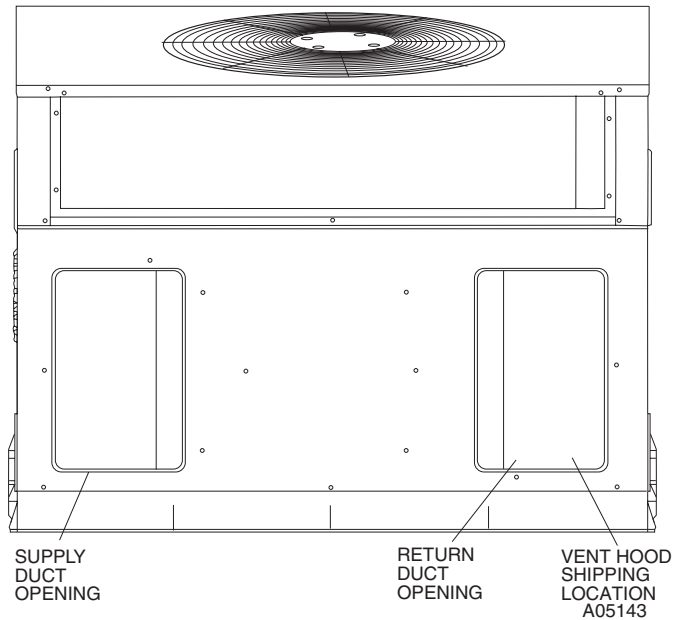

Fig. 10A Supply and Return Duct Opening
The flue assembly is secured and shipped in the return air duct. Remove duct cover to locate the assembly (See Fig. 10A).
2. Remove return duct cover located on duct panel by breaking connecting tabs with screwdriver and a hammer (See Fig. 10A & 10B).
3. To remove supply duct cover, break front and right side connecting tabs with a screwdriver and a hammer. Push louver down to break rear and left side tabs (See Fig. 10A & 10B).